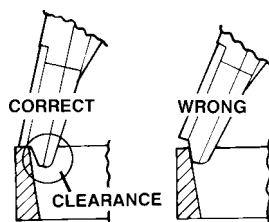

FIGURE 1
1. Turn the expander to the left or right to adjust the installer jaw diameter to the approximate same size as the bearing cup inside diameter. See Figure 1 and 2.